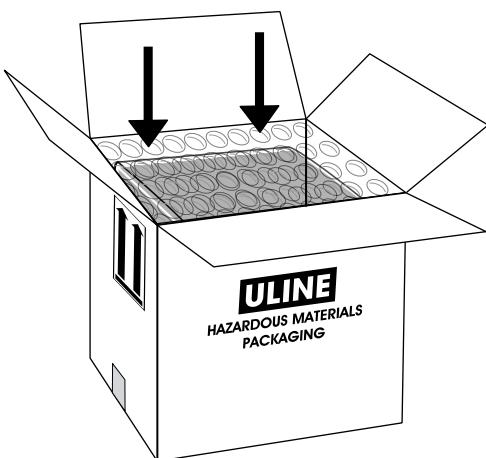

Figure 4
4. Place the bubble wrapped article into the center of the box. Fill any void space with 3/16" anti-static bubble (Uline Model # S-396). (See Figure 4)